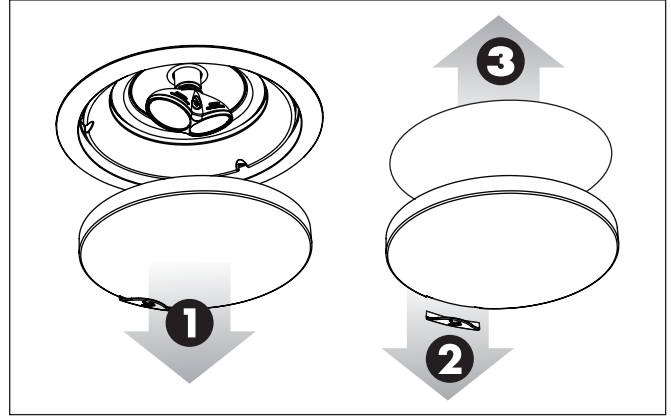

Figure 18. Painting the speaker grill.
- 1 Remove the grill from the Helos 20 (see figure 18).
- 3 A protective scrim is attached to the back of the grill with low-tack adhesive. Remove this scrim by gently pulling it away from the grill cover (see figure 18).